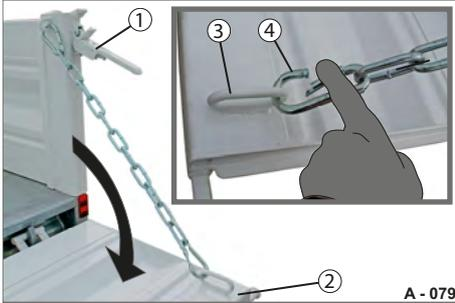

Fig. 80 Rear platform gate, open
- ▶ Unfasten the locks of the (Fig. 80/1) rear platform gate (Fig. 80/2).
- ▶ Hold the rear platform tightly and lead the carabiner hook (Fig. 80/4) into the eyelets (Fig. 80/3).